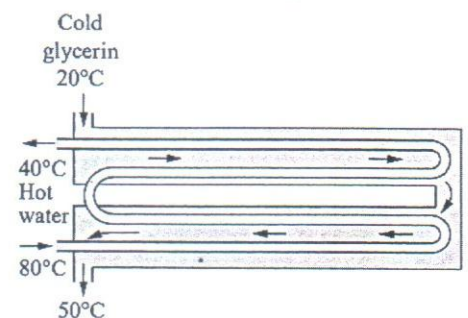

Figure: 3
6. A 2-shell passes and 4-tube passes heat exchanger is used to heat glycerin from 20°C to 50°C by hot water, which enters the thin-walled 2-cm-diameter tubes at 80°C and leaves at 40°C (Fig. 3). The total length of the tubes in the heat exchanger is 60 m. The convection heat transfer coefficient is $25\text{ W/m}^2\text{ }^\circ\text{C}$ on the glycerin (shell) side and $160\text{ W/m}^2\text{ }^\circ\text{C}$ on the water (tube) side. Determine the rate of heat transfer in the heat exchanger (a) before any fouling occurs and (b) after fouling with a fouling factor of $0.0006\text{ m}^2\text{ }^\circ\text{C/W}$ occurs on the outer surfaces of the tubes. [25]